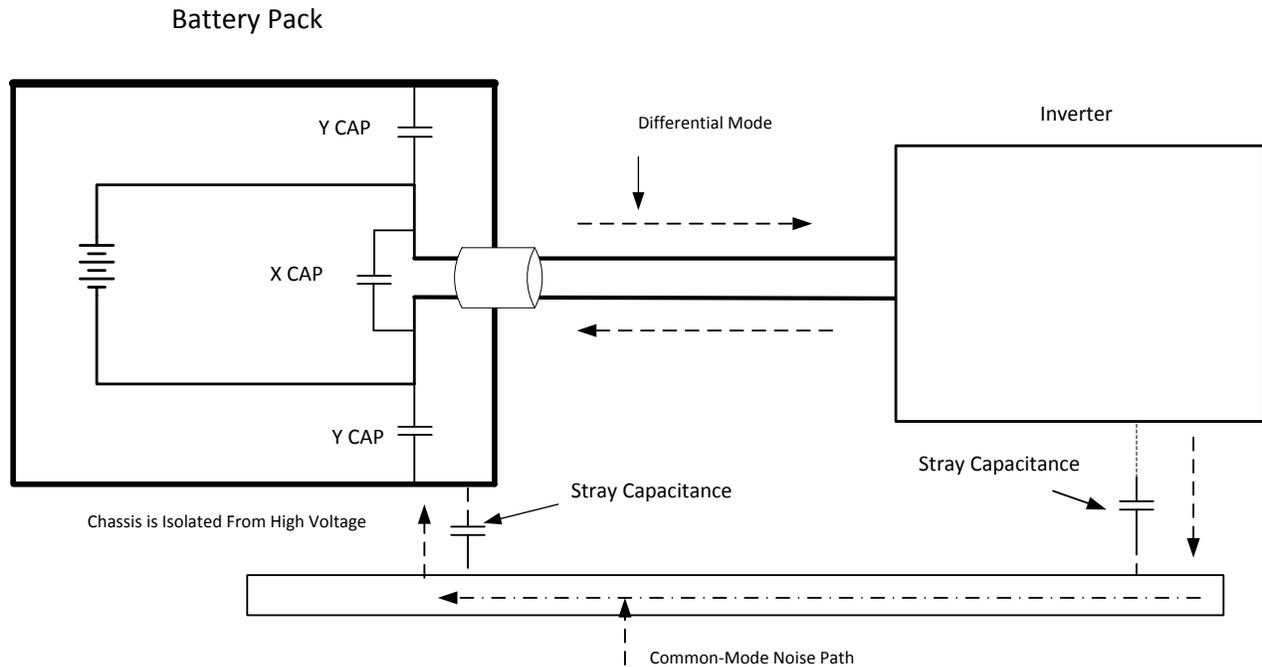

Figure 3-2. X-Y Caps
- Common mode noise goes out from both wires and returns back to the chassis through stray capacitance to ground. A Y capacitor is placed between the chassis as Figure 3-2 illustrates.